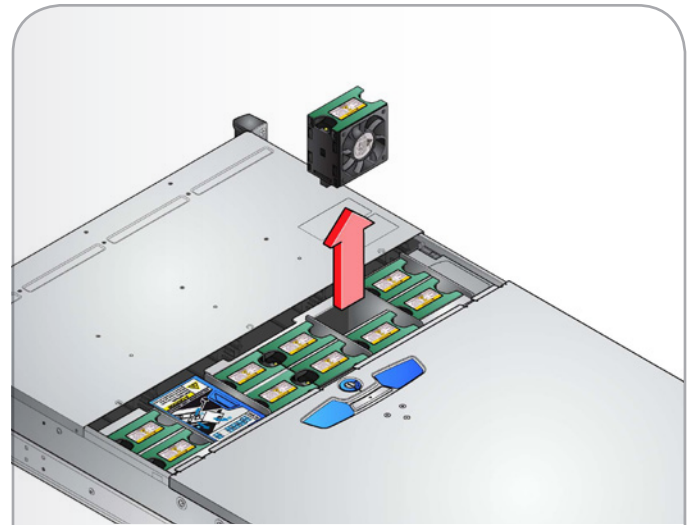

Fig. 27 - Cooling Fan Installation
2. Grip the Fan module and push it all the way into the enclosure until it fits firmly and is level with the other fans (see Fig. 27). The fan module plugs into the Enclosure Management PCB.